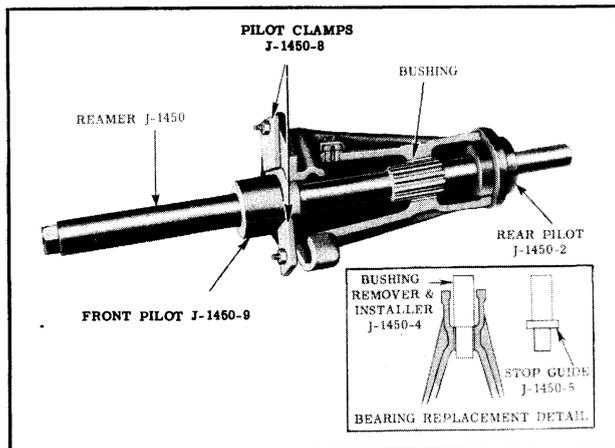

Fig. 11-26 Removing Retainer Bushing
1. Remove old bushing from housing with Tool J-1450-4. (See Fig. 11-26)
4. Place reamer J-1450 into housing and assemble Front Pilot J-1450-9 over shaft down into counterbore of housing. Tighten pilot in place with Clamps J-1450-8. (See Fig. 11-26)